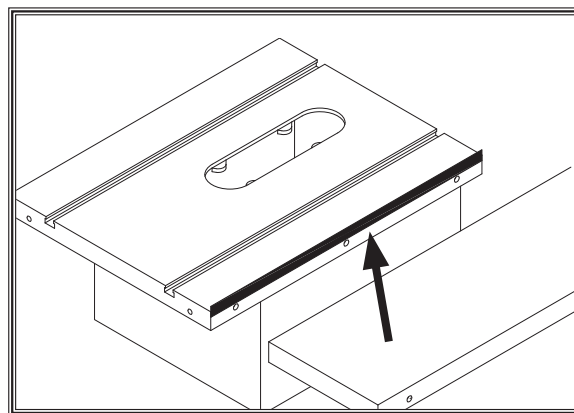

Figure 5. Masking tape location for adjusting the extension wing down.
- If either extension wing tilts up, loosen it and place a strip of masking tape along the top edge of the table (**Figure 5**).